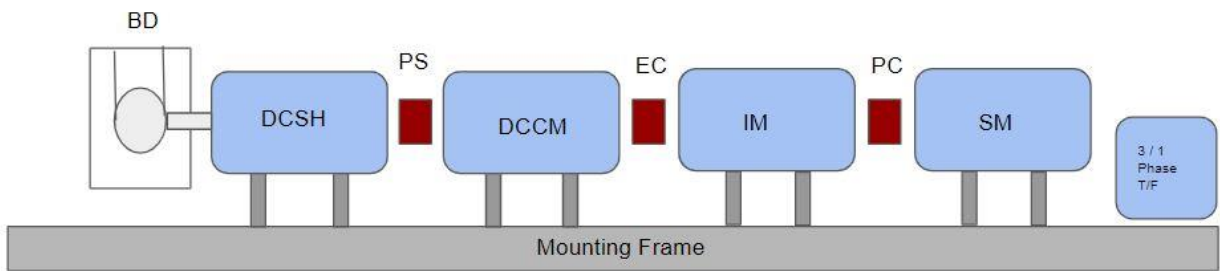
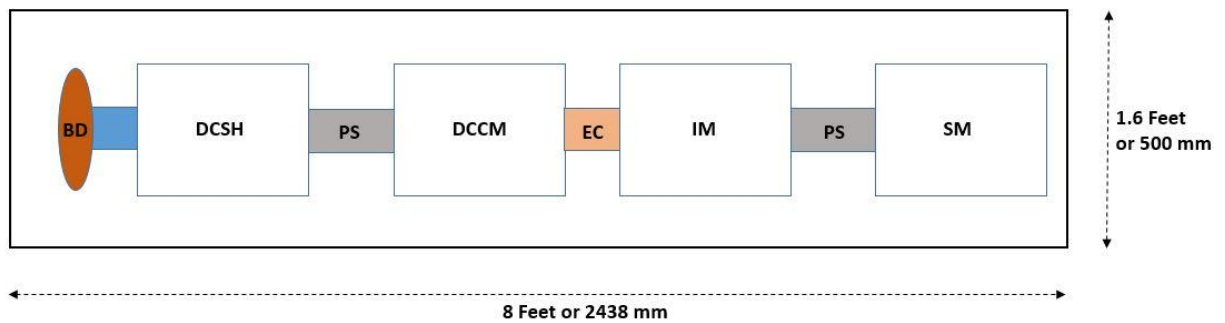

fig 1.1:
fig 1.2
Executive summary: The laboratory will have 15 sets of machine worktables. Each electrical machine worktable will have four electrical machines (one DC shunt machine, one DC Composite Machine, one Three phase Induction machine and one Synchronous machine) where brake drum setup is connected to DC Shunt machines at one end as shown in fig. 1.1, a three phase transformer (Capable to do single phase experiments), single phase/ three phase Auto transformers, load banks, Rheostats, associated instrumentation facilities, a worktable, relevant switchgear and inter-connection wires.
The two sets (i.e. Set-1 and Set 2) should be coupled to each other by Electromagnetic coupling (EC). Therefore the machines should be co-axial, in order, DC Shunt machine, DC compound machine (DCCM), Three phase Induction Machine (IM) and Synchronous Machine (SM) as shown in fig 1.1 with maximum permissible dimensions as shown in fig 1.2.
All these machines are to be mounted on a single CNC machined frame as depicted in fig 1.1. For measuring torque, Spring balance brake drum arrangement should be provided on the left side of the DC Shunt machine and torque sensor should be placed between three phase induction machine and synchronous machine.
The setup should have one slotted disc mounted in between Set-1 and Set-2 for speed measurement. If an optical sensor is used, the casing must be IP 54 (not shown in fig 1.1 and fig 1.2). The overall assembly is to be restricted strictly to the maximum dimensions shown in fig 1.2 (this refers to maximum dimensions of the entire machine setup including rails, bed, etc). The setup must be rated for operation at least 2500 rpm.